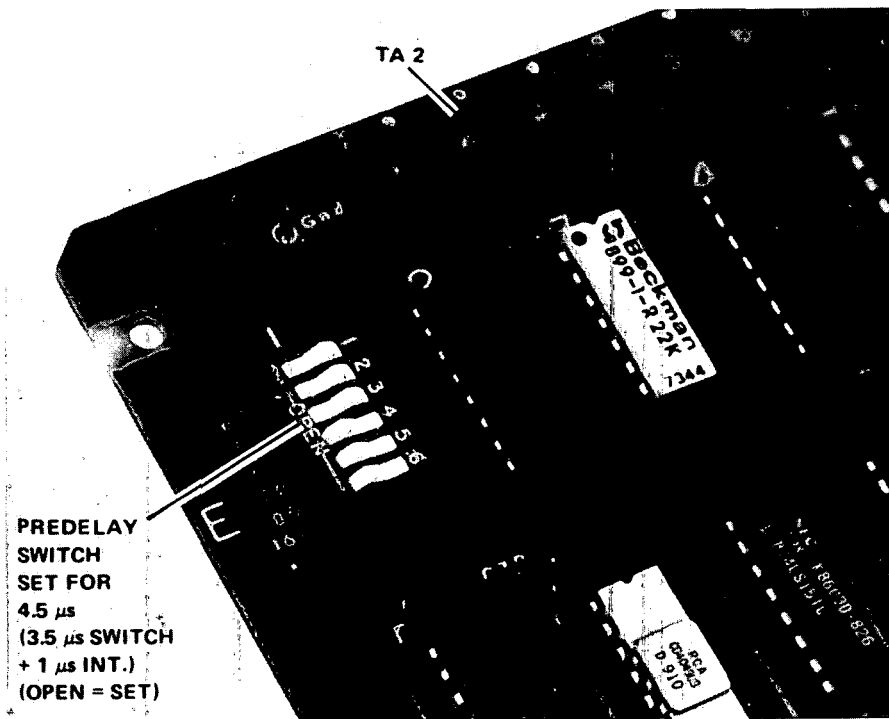

Fig. 13.
7. Return the predelay switch setting to 3.5  $\mu\text{s}$  for a total of 4.5  $\mu\text{s}$  of predelay (Figs. 13 and 14). This completes the predelay check.